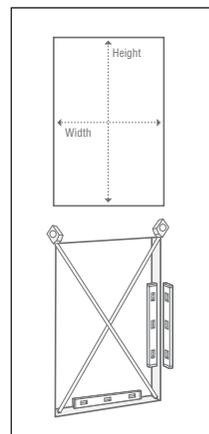

fig. 1
- Verify the window opening with the frame size of the window. Ensure there is a minimum of 1/4" extra space for height and width. (fig. 1)